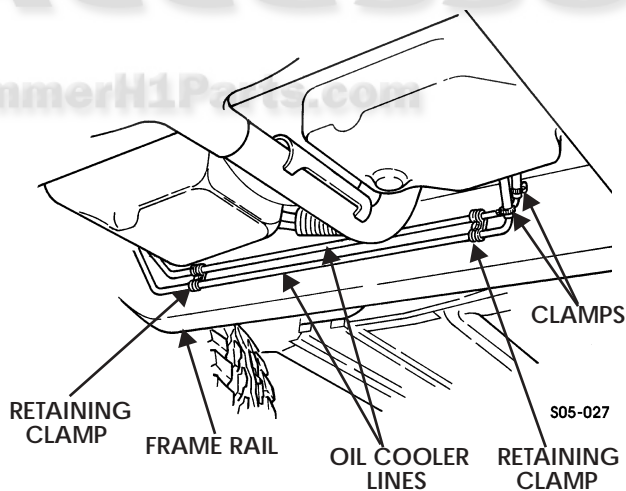

Figure 5-76: Oil Cooler Lines at Frame
2. Remove oil cooler lines and retaining clamps from frame rail (Figure 5-76).